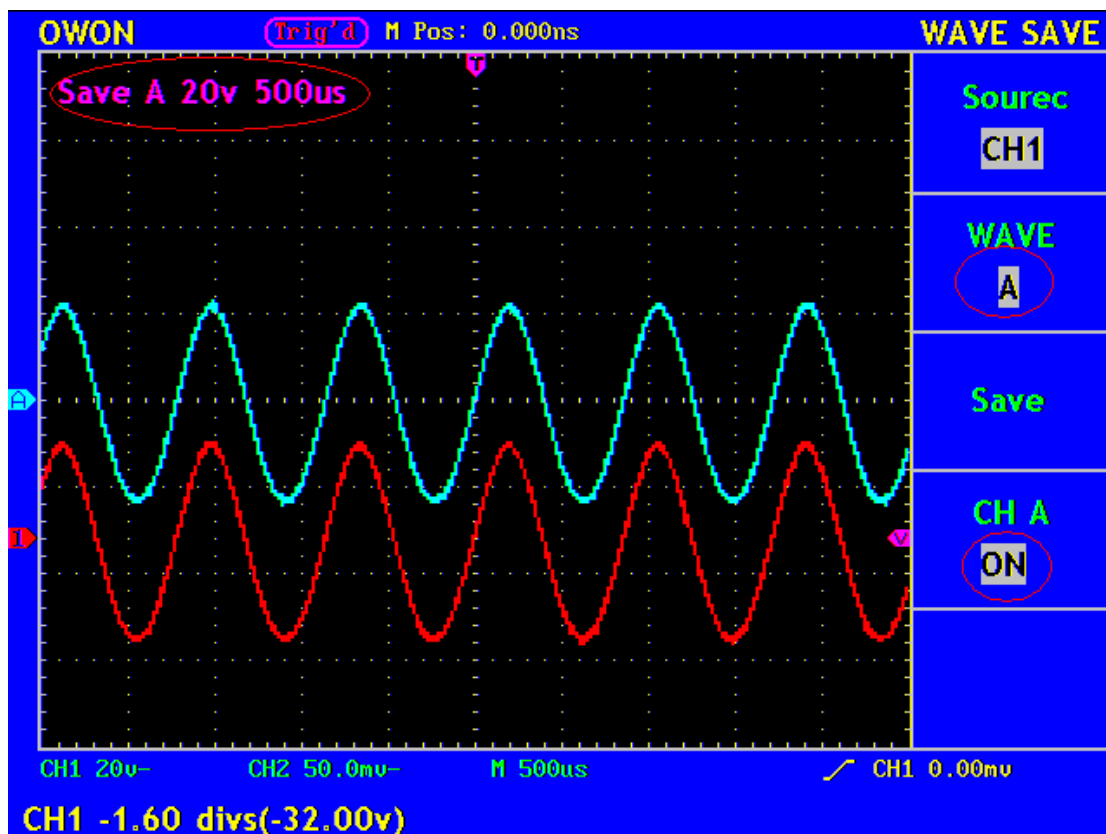

Fig. 43 Wave Saving
4. Press the **F4** menu selection button and choose **ON** for CHA. The stored wave form A will be displayed in the screen. The voltage level and time base level will also be shown at the upper left corner of the display area at the same time (see Fig. 43).